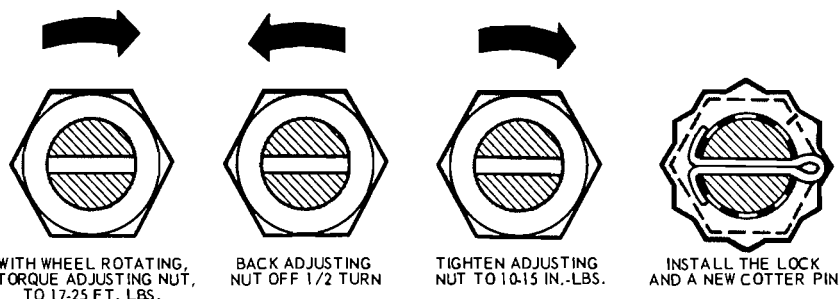

FIG. 1 Front Wheel Bearing Adjustment
spindle by the adjusting nut, nut lock and cotter pin (Figs. 1 and 2, Group 11, Part 02).
4. While rotating the wheel, hub, and drum assembly, torque the adjusting nut to 17-25 ft.-lbs to seat the bearings (Fig. 1).
- While rotating the wheel, hub, and rotor assembly, torque the adjusting nut to 17-25 ft-lbs to seat the bearings (Fig. 1).